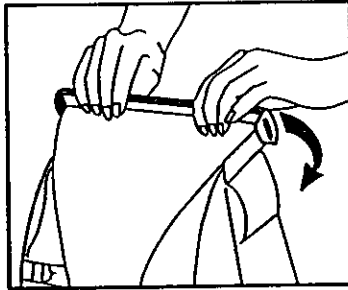

Fig. 3
- Bare floor cleaning tool, fits front of nozzle. Fig. 3